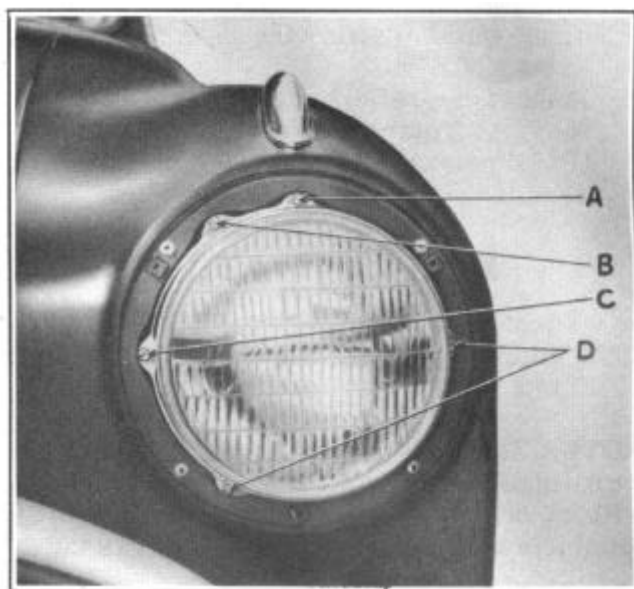

FIGURE 28
2. Loosen, but do not remove, the three screws (B) and (D), Figure 28, holding the retainer. Do not disturb the aiming screws (A) and (C) at the top and left side of the unit.